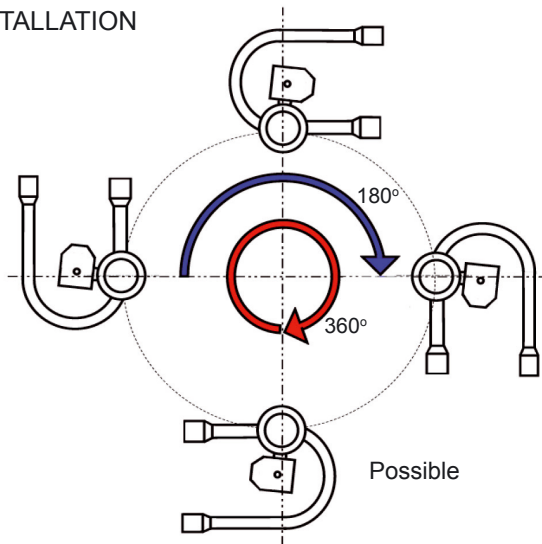

Fig. 1
- a. in horizontal position, the orientation of STF series 25, 30, 40, 50 and 60 series should be in the range from 0° to 180°. For the remaining valve types any orientation from 0° to 360° is possible (Fig.1 ).